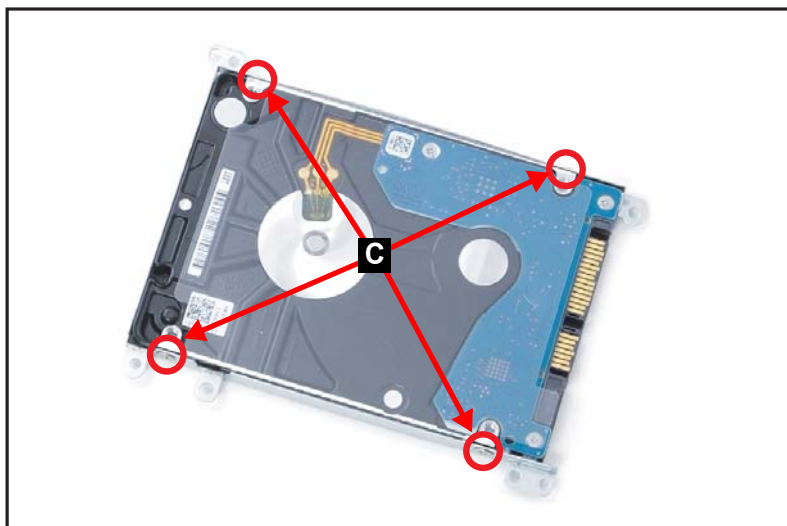

Figure 1-104. Replacing the HDD Module
2. Install and secure four (4) screws (C) to the HDD bracket (Figure 1-104).